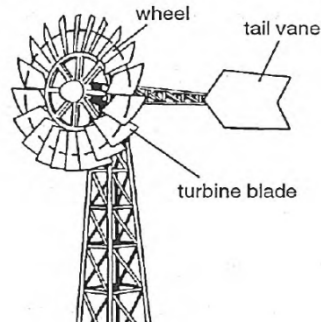

Fig. 8.1
- 8 Wind energy is a renewable source of energy, harnessed from the kinetic energy of moving air. Since the late 1800s, windmills like the one shown in Fig. 8.1 have been used for milling grains.
- (a) The windmill is most efficient when the wheel and turbine faces the oncoming wind head-on. With reference to Fig. 8.1, explain how the tail vane works.